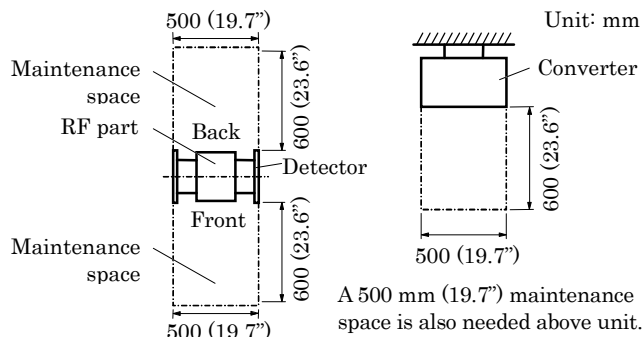

Figure 5. Clearance space
- (1) Install the LQ500 in an environment free from vibration and corrosive gases and in a place which allows easy on-site maintenance.
- (2) Provide a clearance space both detector and converter to the front, rear, and above the unit. See Figure 5.
- (3) Provide a sunshade for the detector and converter if direct sunlight is unavoidable when installing outdoors.
- (4) The LQ500 cannot be installed in an environment where there is a possibility that flammable or explosive gases may leak.
- (5) The LQ500 should avoid the following environmental installations: